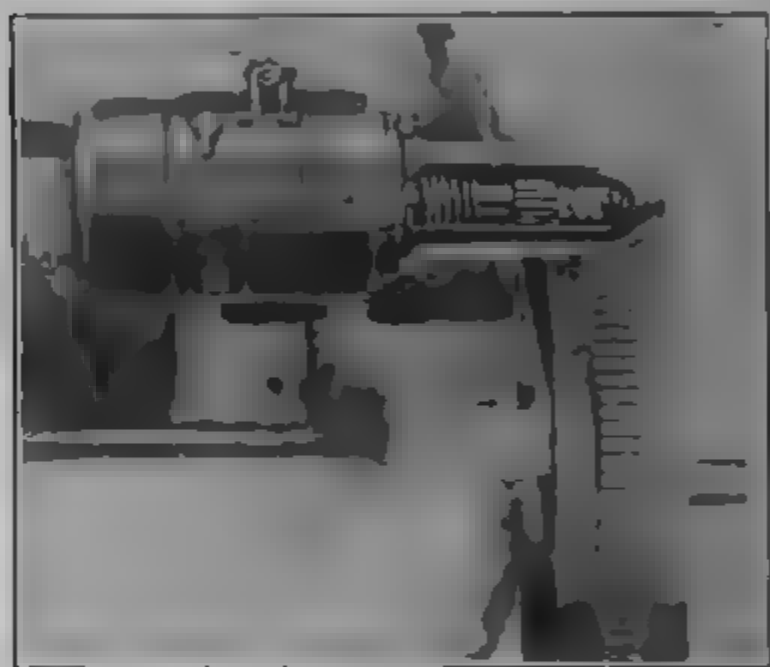

Fig. 165. Auto-Lite Engager section of a Bobsaw of Starting Motor, Overland Engine
**Automatic Engagement. Auto-Lite Type.** In Fig. 165 is illustrated a starter which eliminates the necessity of mechanically engaging the starting pinion with the flywheel gear. The armature shaft is extended and a sleeve having spiral-cut threads on its outer surface is placed over this armature shaft. One end of a coil